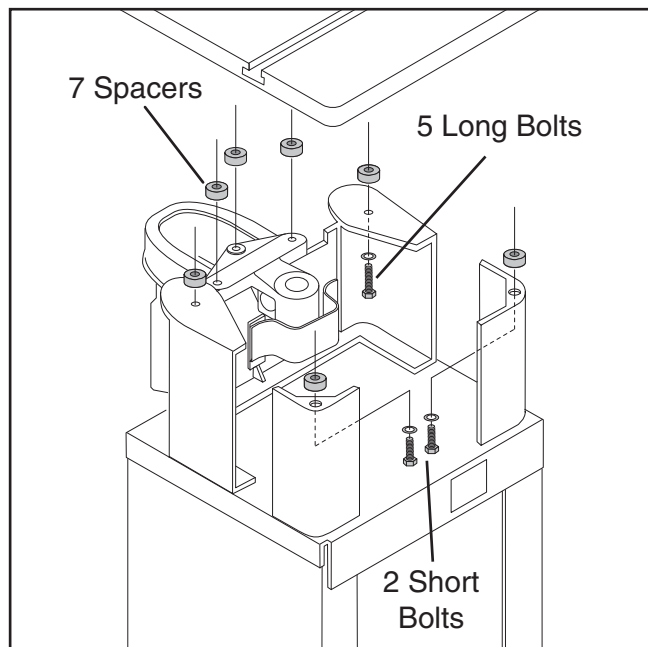

Figure 52. Installing table spacers to convert shaper to router table.
10. Place table on spacers and secure it to shaper with hex bolts and lock washers from router table spacer kit (see **Figure 52**).